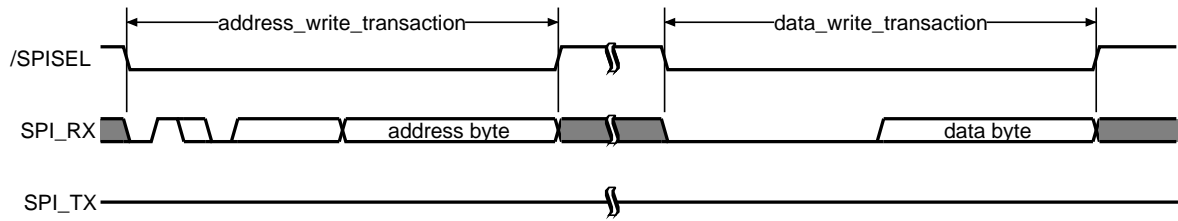

Figure 2.14: Register write access (transaction sequence)
1. A register write access is a sequence of two SPI write transactions as shown in Figure 2.14. With the first transaction the SPI master specifies the register address (control byte is '01X0CCCC'). Afterwards, the new register value is transferred from the SPI master to XHFC-1SU (control byte is '0000 0000').
Figures 2.14 to 2.16 show $/\text{SPISEL} = '1'$ between the transactions. This splits the sequence into an address write transaction and one or several data write transactions. The split time has an arbitrary duration. It can also decrease to zero, which means that $/\text{SPISEL}$ remains '0' for several transactions.